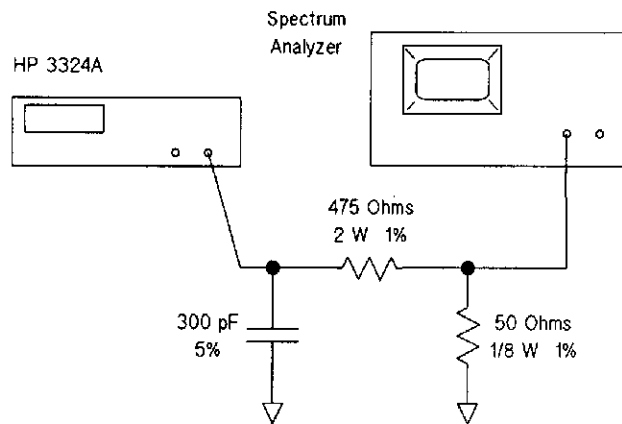

Figure 12-1. Harmonic Distortion Verification Test Set-Up (High-Voltage Output)
1. Connect the HP 3324A signal output to the analyzer high-impedance input as shown in Figure 12-1.